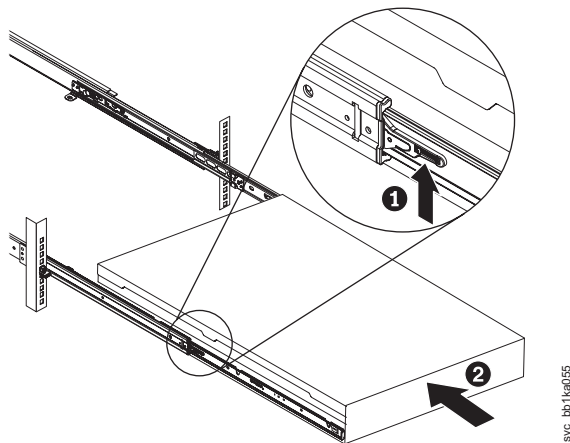

Figure 41. Raising the SAN Volume Controller 2145-CF8 locking levers of the slide rails of the rack
2. Lift the locking levers ( **1** in Figure 41) on the slide rails and push the server **2** all the way into the rack until it clicks into place.